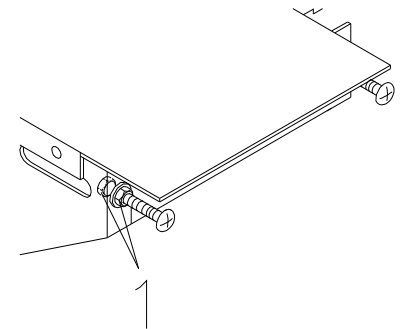

Fig. 8
**Note:** Loosen the 4 locknuts (fig. 8 pos 1) before adjusting the tension.
The tension can be adjusted by rotating the front or rear locknut (fig. 8 pos 1):